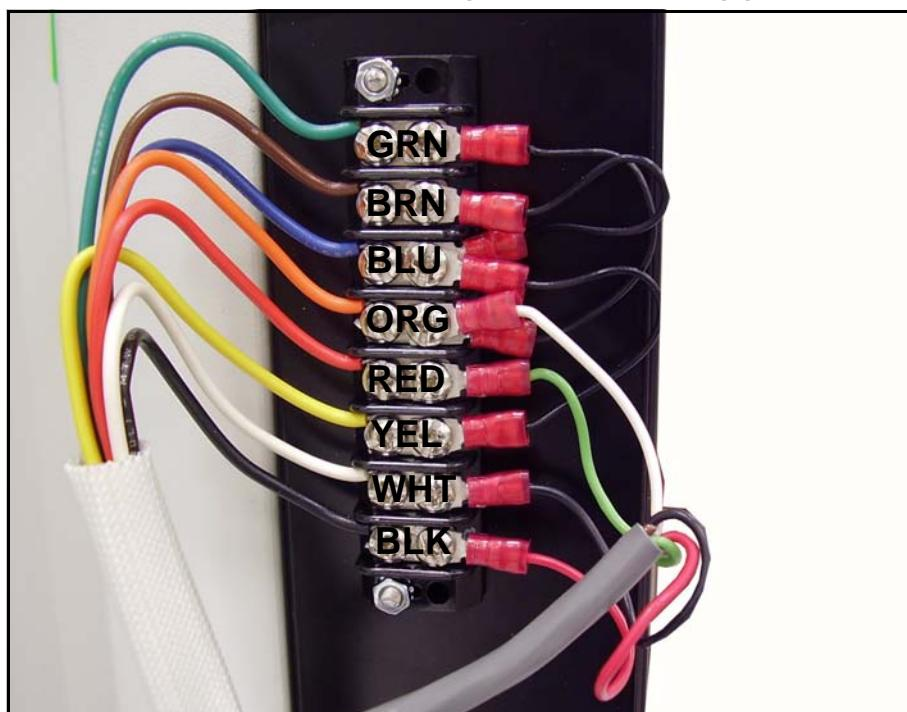

Figure 6-24. PBL Wiring Diagram
- 12 Reverse steps to reassemble. Use Figure 6-24 as a wiring guide.